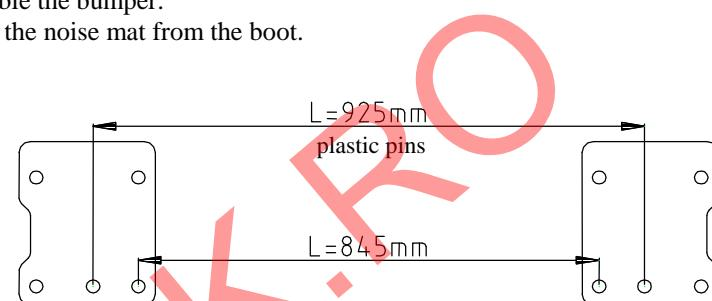

Fig.2 Element's distance
3. On the left and right side in the boot are plastic pins (diameter 11mm). On this pins put elements pos. 6 (pins in pos. A hole) – see fig. 2. Next drill holes through holes pos. 2 and 3, use bit Ø11 mm, drill straight through.
4. Put bolts M10x40 through holes(pos. C in element pos. 6 and next from below of car sandwich element pos. 4 from the left side (screw loosely), from the right side sandwich element pos. 5 (screw loosely too).
5. Through holes pos. B (in elements pos. 6) put bolts M10x30 and screw it with floor and element pos. 7.
6. In this way prepared elements (pos. 4 and 5) put main bar of the towbar (pos. 1) and fix it using bolts M12x30 (loosely).
7. Through holes pos. D fix with original tow handle using distance plain washers Ø58xØ12x6 pos. 8.
10. Fix tow-ball (pos. 2) and socket plate (pos. 3) using bolts M12 x 70mm (pos. 9) from equipment.